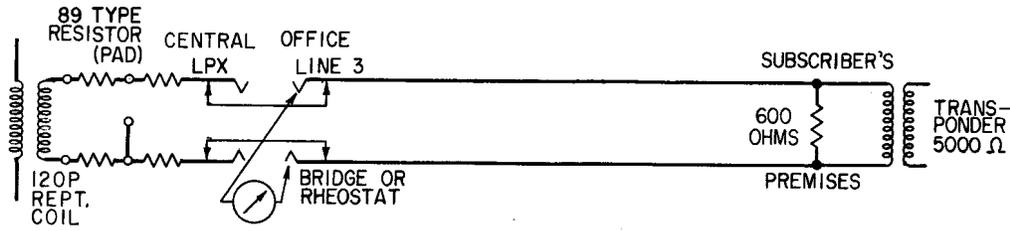

Fig. 1 — Measurement of Loop DC Resistance
3.01 The resistance of each loop should be measured as shown in Fig. 1 from its LINE jack at the central office with a Wheatstone Bridge or rheostat which is part of the local test desk. The measurement should include the 600-ohm resistance on the loop which is located at the subscriber's premises. If the transponder is installed by ARB, its resistance of about 540 ohms will be in parallel with the Telephone Company resistor and this should not be overlooked. The resulting resistance of each loop